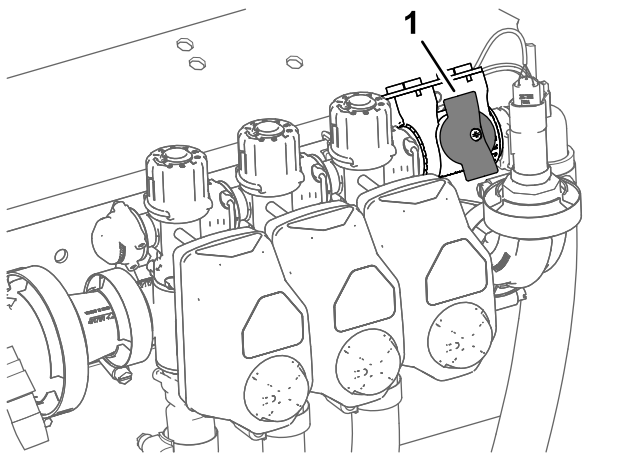

Figure 28
2. Rotate the knob for the section-bypass shutoff valve to the closed position (Figure 28).